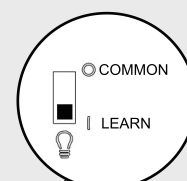

Fig 3
**IMPORTANT** – Choose the correct operating mode for the handset by setting the dip switch in the back of the handset, depending on your preference (see Fig 3).